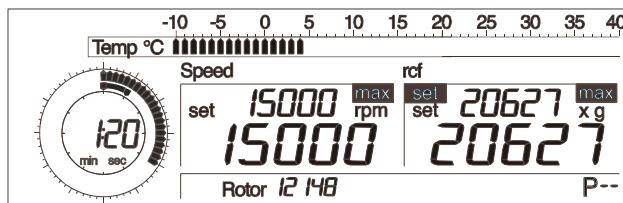

Fig. 5.14:
- Turn the left rotary knob until "set" appears in front of the parameter "rcf" on the display (Fig. 5.14).